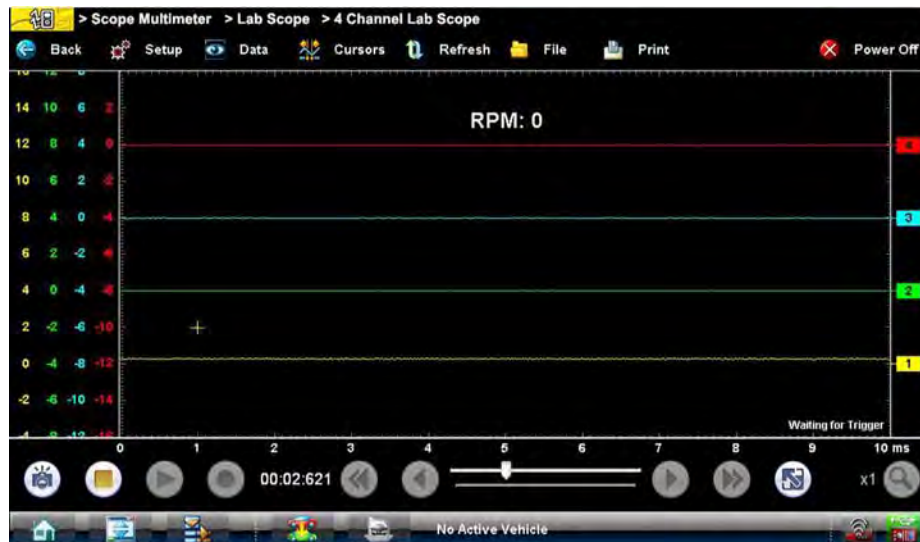

Figure 8-21 Sample Show RPM selected
- **Show RPM**—adds an engine speed field at the top of the screen (Figure 8-21).